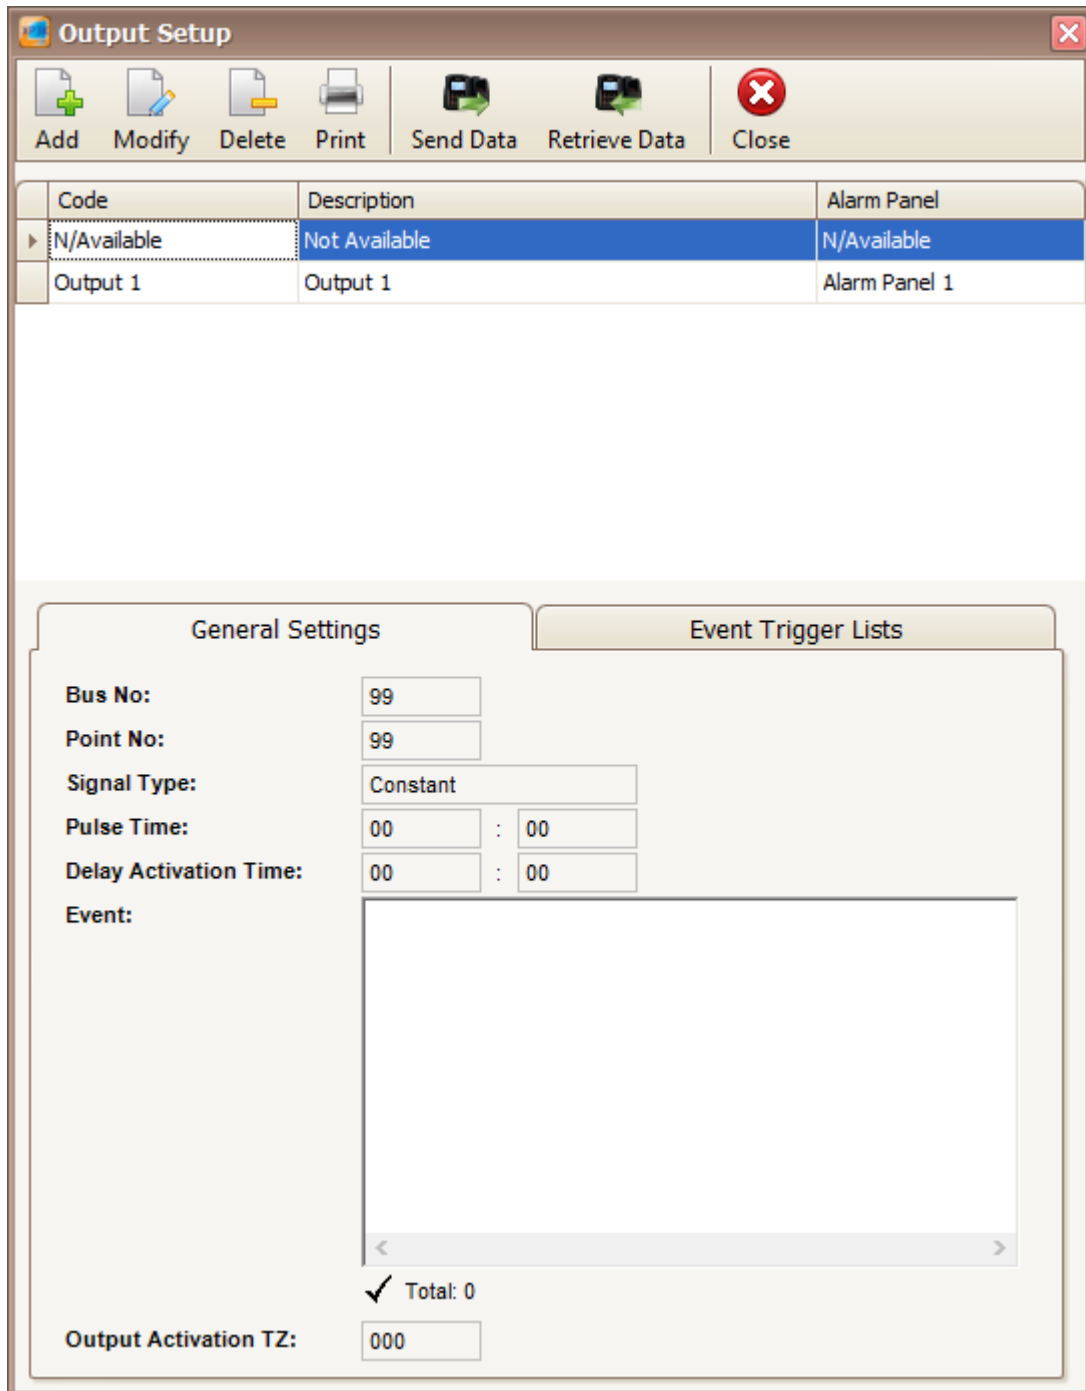

Figure 125 - Output Setup
2. The following window will be shown (Refer **Figure 125**).